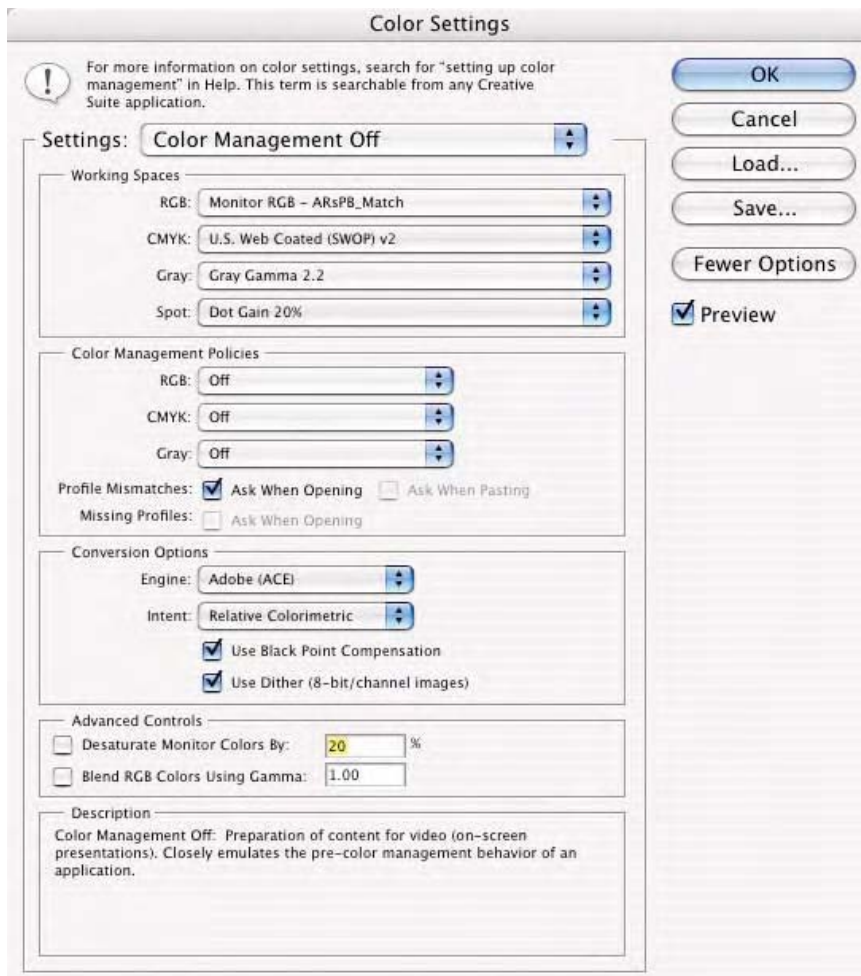

Fig. 9-6-5 After choosing the Color Settings, this dialog appears. Set the **Settings** pop-up menu to **Color Management Off** as seen here and click **OK**.
1. Go back into the **Color Settings** dialog if you dismissed it earlier, and now toggle the settings from **U.S. Prepress Defaults** to **Color Management Off** as seen in Fig. 9-6-5. Notice that the policies are set to **Off**. Click **OK** to accept the new changes.